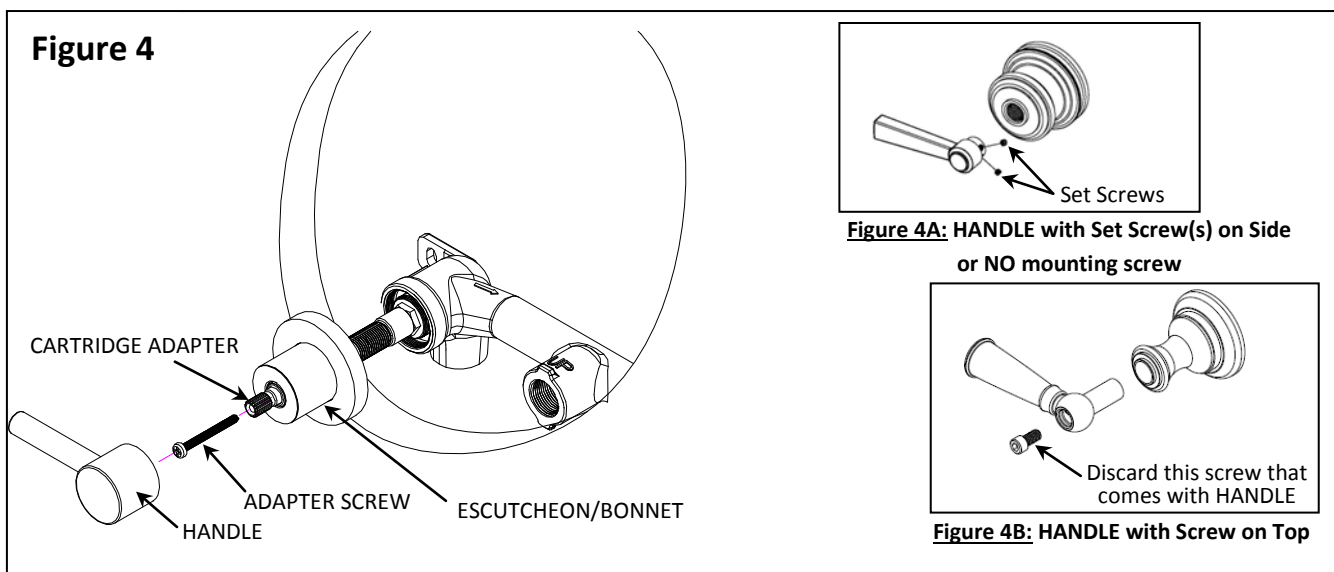

Figure 4
1. In **Figure 4**, ensure cartridges in full closed position, use previously removed ADAPTER SCREW to loosely install CARTRIDGE ADAPTER onto 20 tooth CARTRIDGE STEM. Temporary install the HANDLE and check alignment.